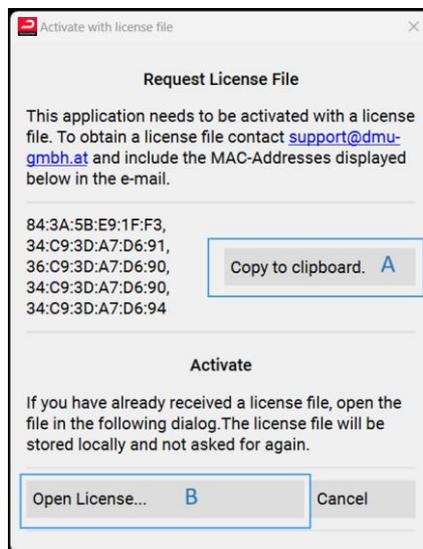

Figure 2: Request License File
When opening the software for the first time, you will be asked for a valid license file (Figure 2). The license file can be requested via [support@dmu-gmbh.at](mailto:support@dmu-gmbh.at). To do that, please click on the button *Copy to clipboard* (A) and send that MAC address to our support team via email.